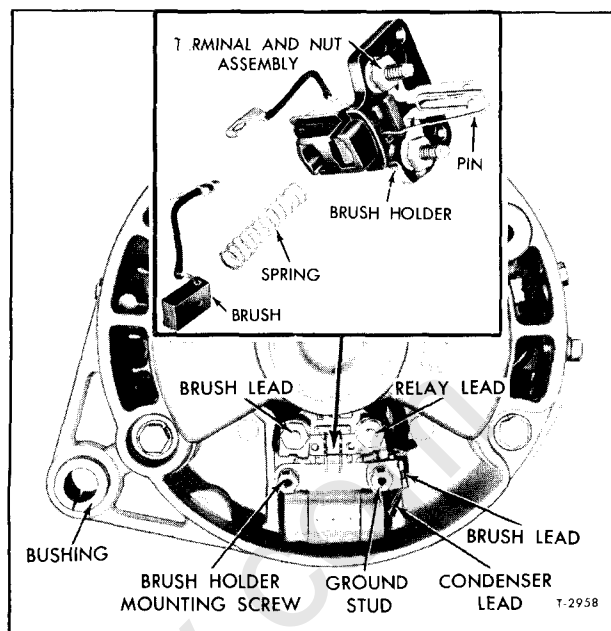

Figure 19—Generator Brush Replacement (Model 1117754 or 1117787)
NOTE: Refer to figure 19.
6. Position brush holder and brushes in end frame. Secure brush and condenser leads to terminals as shown in figure 19.